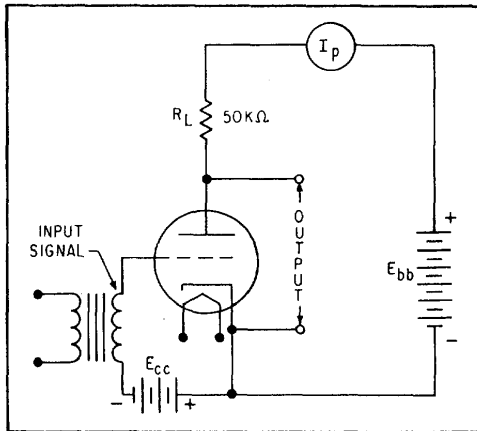

Figure 1B. — Triode operation.
- 1-28. The triode circuit depicted in figure 1B above contains a  $50\text{ k}\Omega$  load resistor. When a 10-volt peak-to-peak ac signal is applied to the grid, current flow in the tube varies between 5 milliamperes and 12 milliamperes. What is the peak-to-peak amplitude of the output?